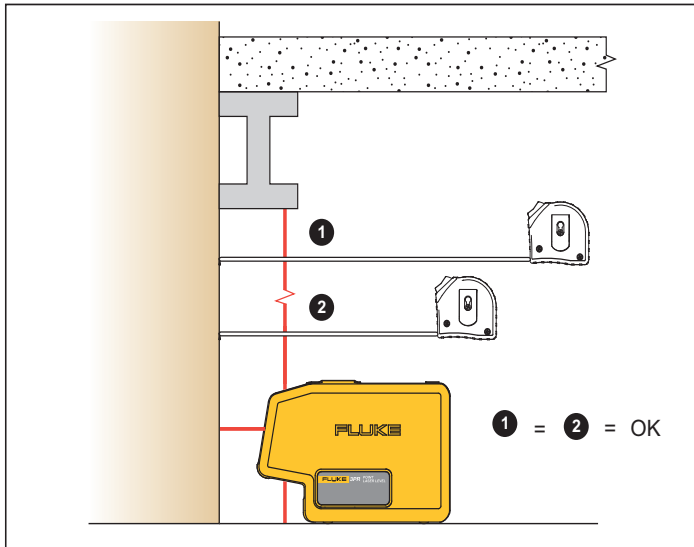

Figure 4. Plumb of Existing Item
2. Measure the distance from the item to the laser. See Figure 4.